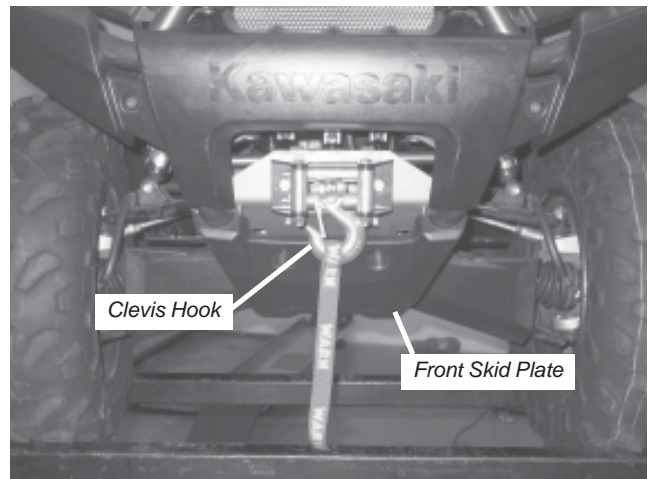

Figure 7 Complete Winch Installation
7. Switch the winch clutch to freespool. Manually feed the winch cable through the roller fairlead. Attach the clevis hook to the end cable loop, Figure 7. Reinstall front skid plate with original hardware from step 1 and securely tighten.
**Winch and winch mount installation is now complete and should look like Figure 7. Proceed to section IV, entitled "Specific KVF750 Wiring Instructions".**